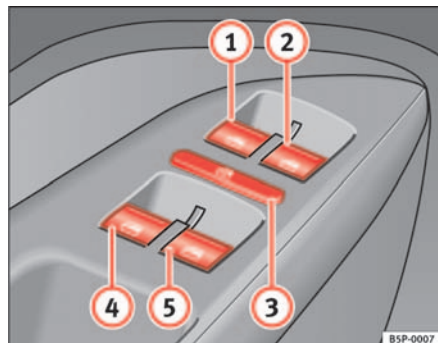

Fig. 70 Section of the driver door: controls for the front and rear windows
The buttons ⇒ page 106, fig. 70 ① and ② have two levels for opening the window and two for closing it. This makes it easier to open or close windows to the desired position.